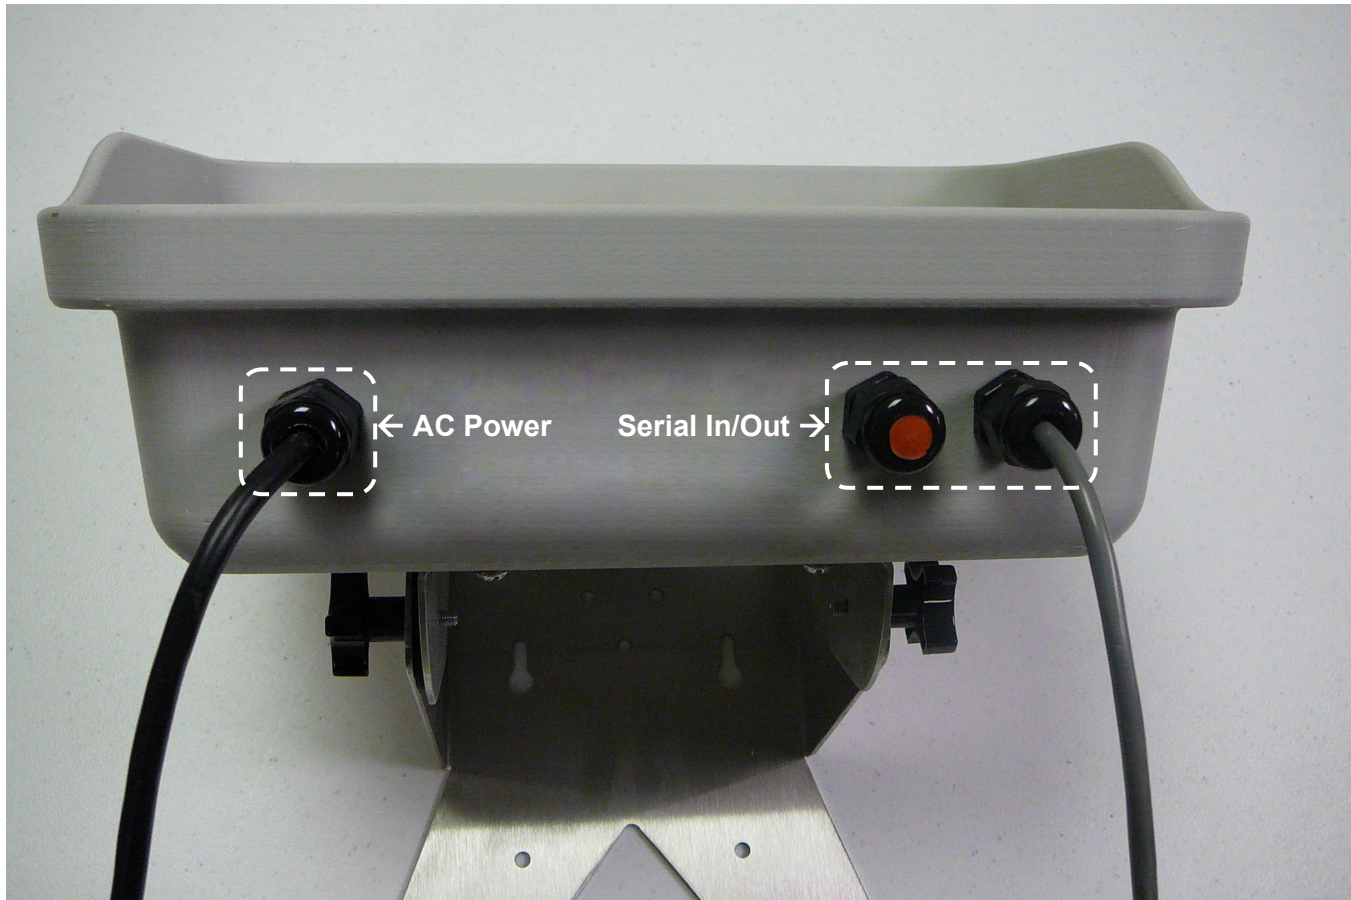

Figure No. 5
2. Referring to Figure No. 5, choose a gland connector for the serial cable, loosen it, and remove the rubber plug.